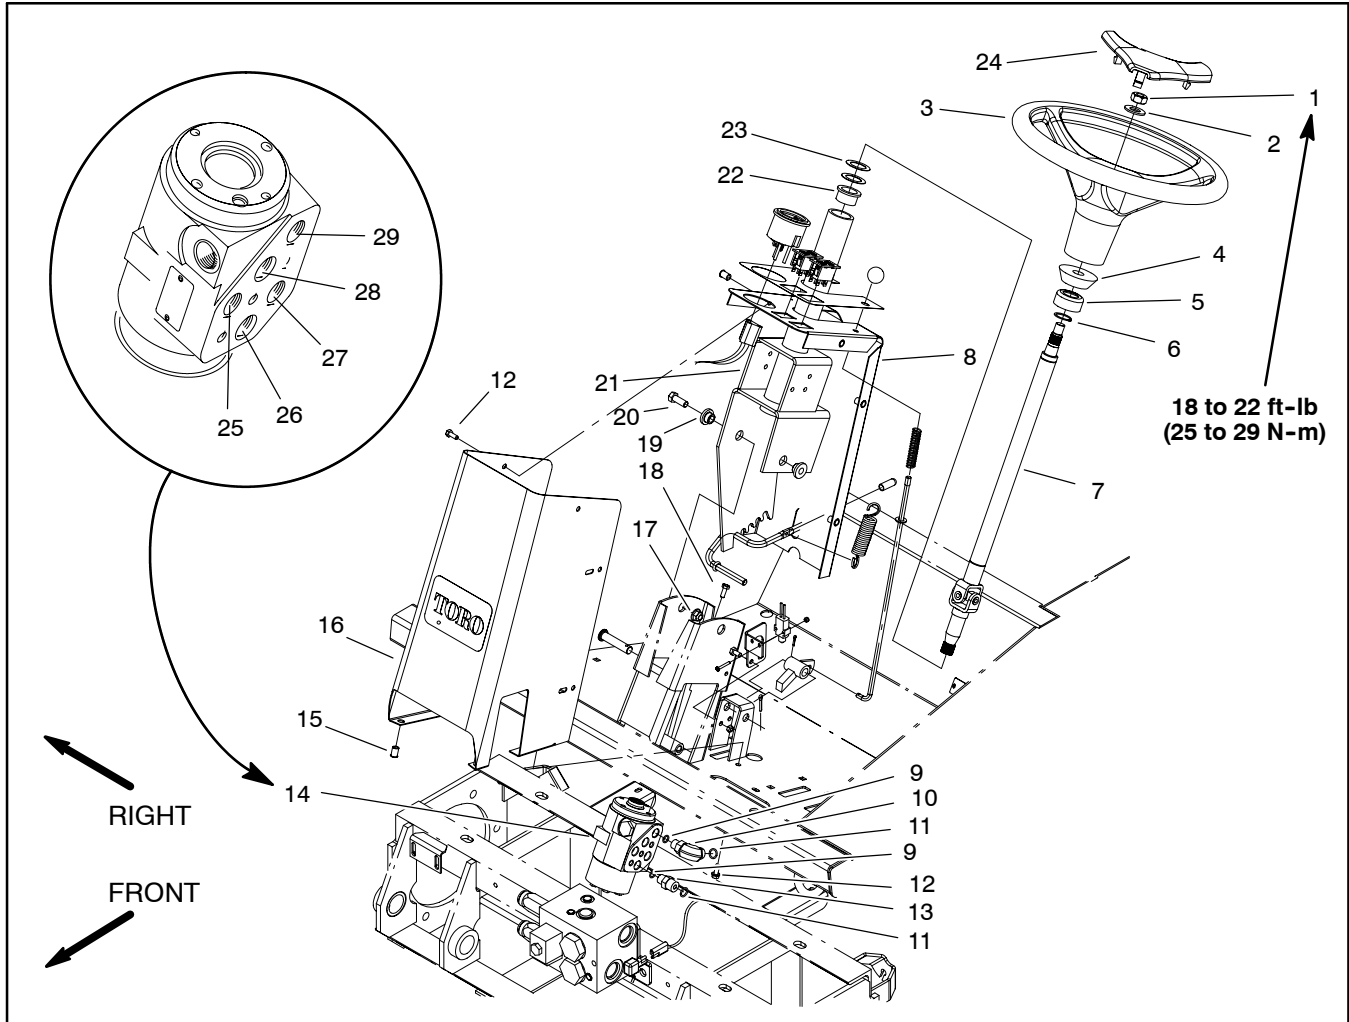

Figure 73
3. Remove steering valve from machine using Figure 73 as a guide.
1. Install steering valve using Figure 73 as a guide.